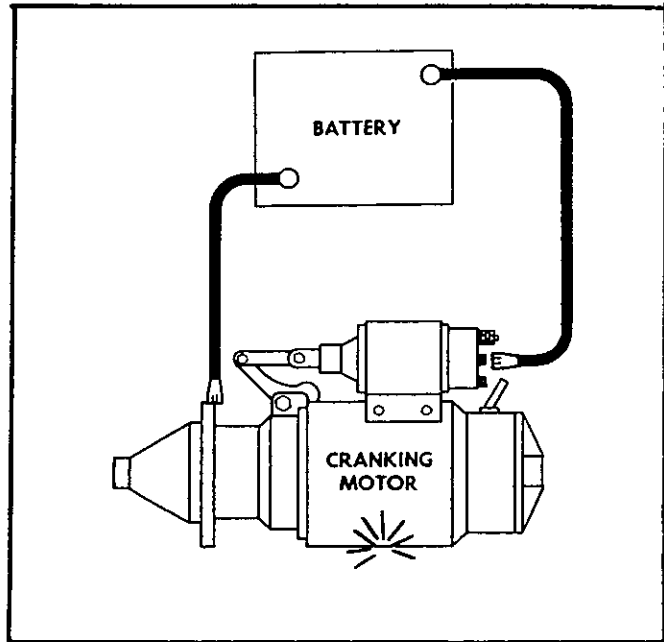

Fig. 133—Connections for Checking Pinion Clearance
2. Connect a battery of 24 volts, from the solenoid switch terminal to the solenoid frame. (Fig. 133).